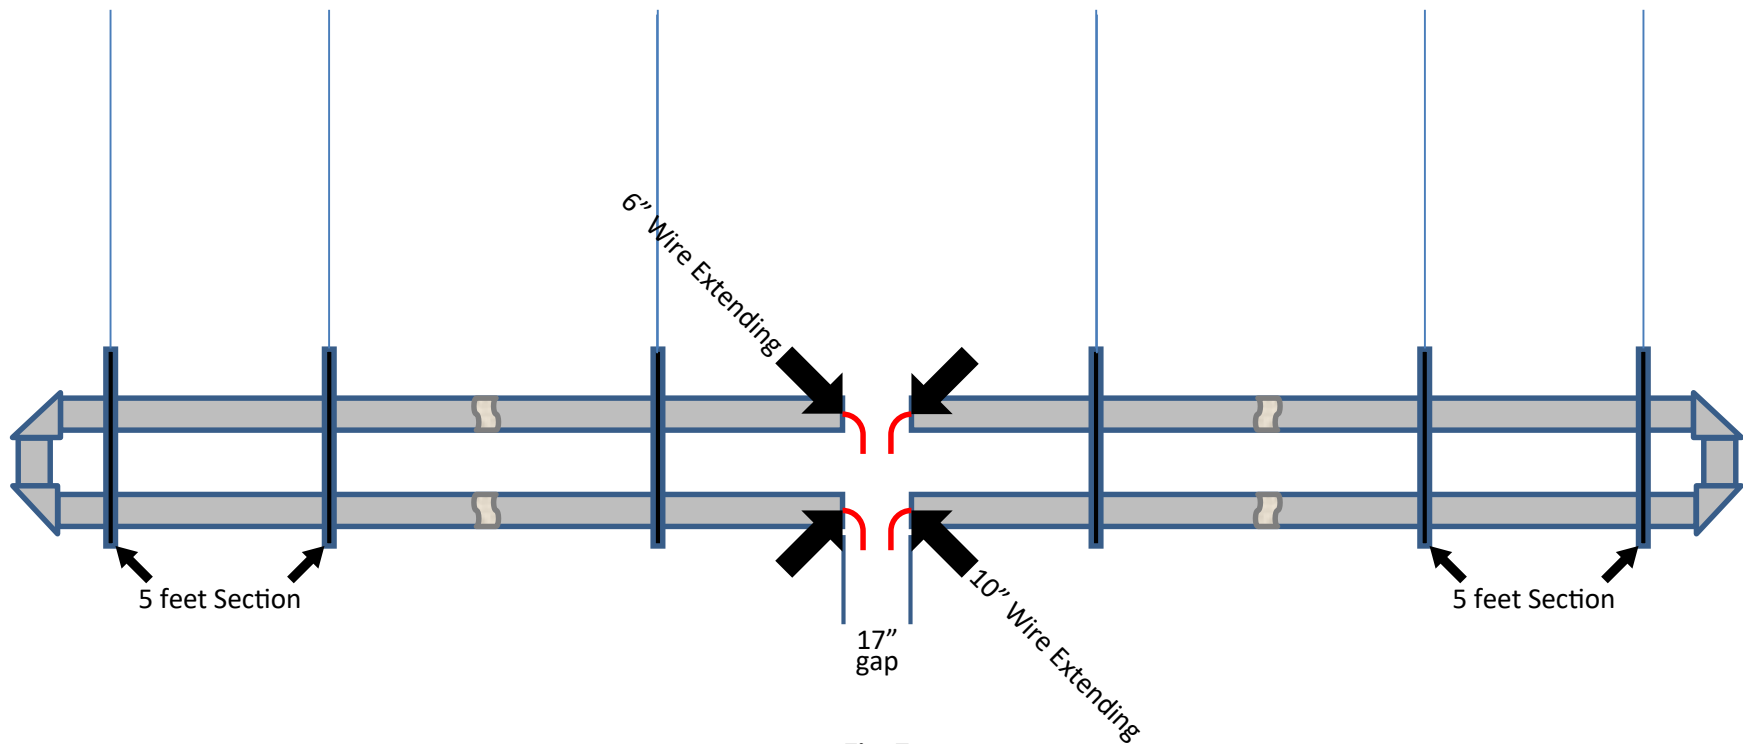

Fig. 7
- Run **10 AWG** through both conduits and leave wire hanging in the middle (as shown in **red**) (**Fig. 7**). The upper left should have 6" of wire extending out and the other 3 channels should have at least 10" extending out.